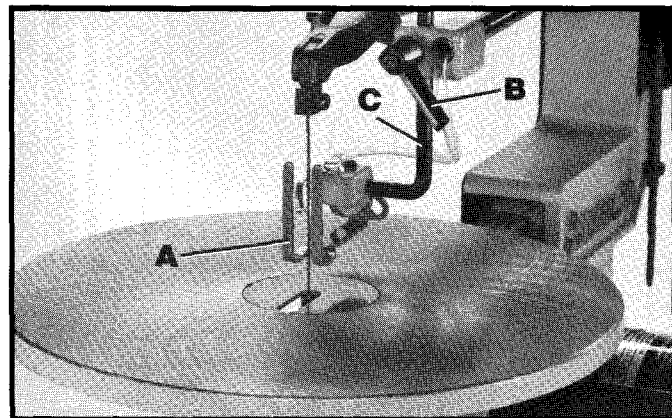

Fig. 35
The holddown (A) Fig. 35, should be adjusted so it contacts the top surface of the work being cut by loosening lock handle (B) and moving holddown rod (C) up or down. Then tighten lock handle (B).